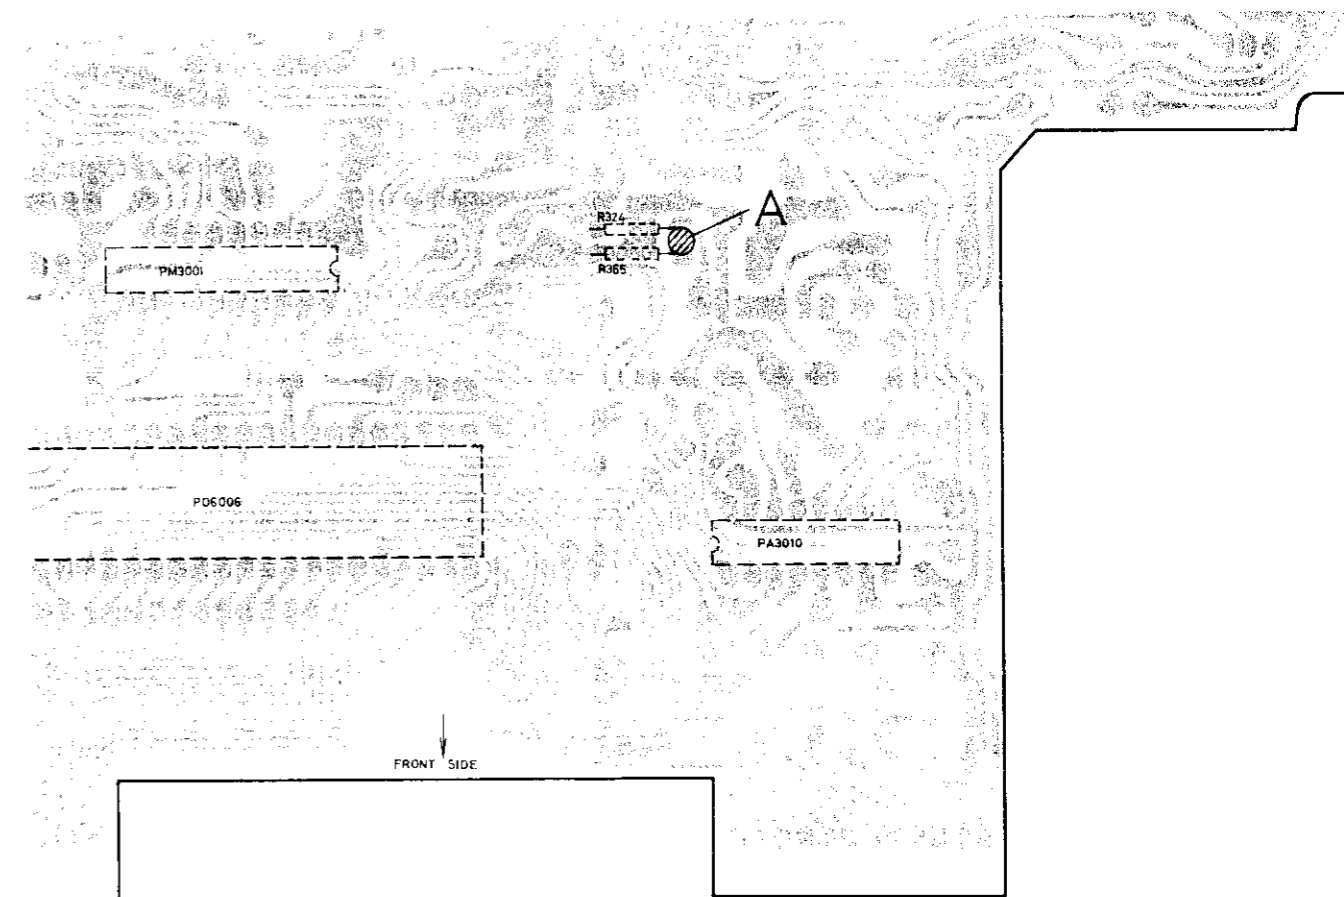

Fig. 12-24 Soldering point (Control assembly foil side)
2. If 0.6Vp-p is exceeded, bridge the section A shown in Fig. 12-24.